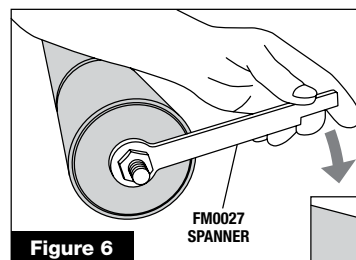

Figure 6
- 18 Screw the compression nut firmly against the element assembly (**figure 6**), using the correct spanner (Part No FM 0027).